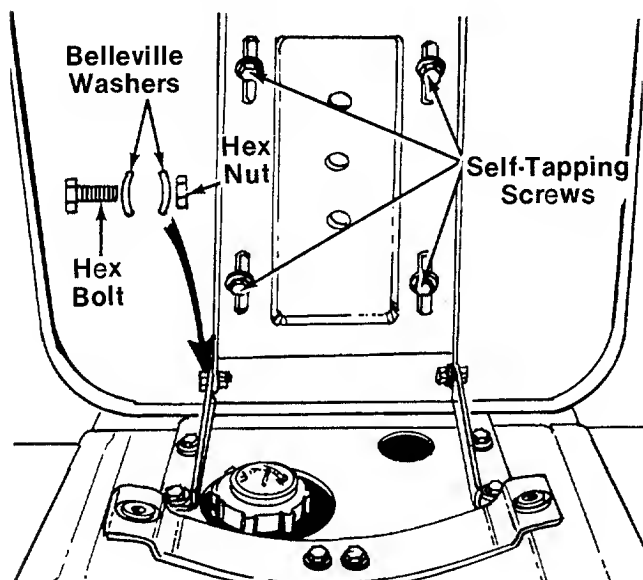

FIGURE 4B.—Model 843
Place the seat in position against the seat brackets. Secure each side of seat with  $\frac{3}{4}$ " long hex bolt, two belleville washers (on the inside and outside) and hex lock nut. Crown side of washers should be against the head of the bolt and the nut. See figure 4B.
**Model 843**—To adjust the position of the seat, loosen the four self-tapping screws on the bottom of the seat. See figure 4B. Slide the seat forward or backward as desired. Retighten the self-tapping screws.